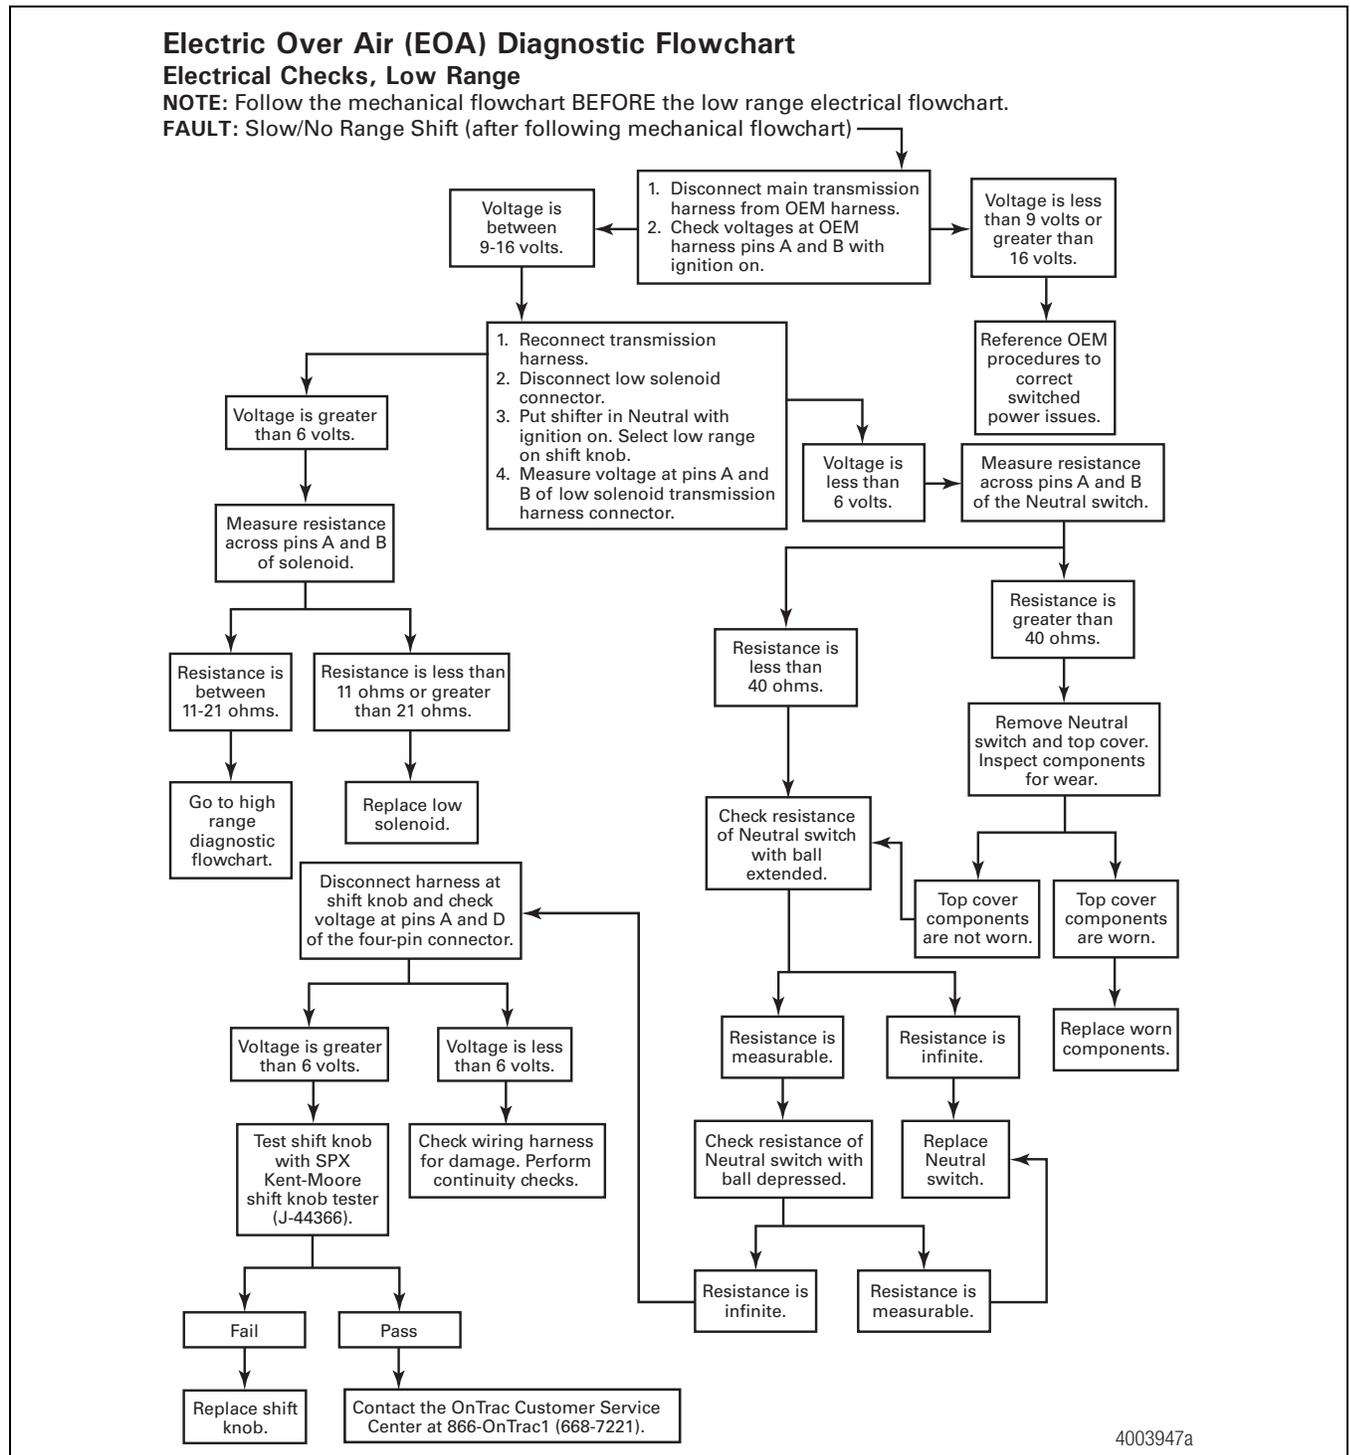

Figure 9.56
- Low Range Electrical Checks — Follow the low range electrical checks flowchart to verify that the low electrical system functions correctly. Perform low range electrical checks AFTER mechanical checks and BEFORE high range electrical checks. Figure 9.56.